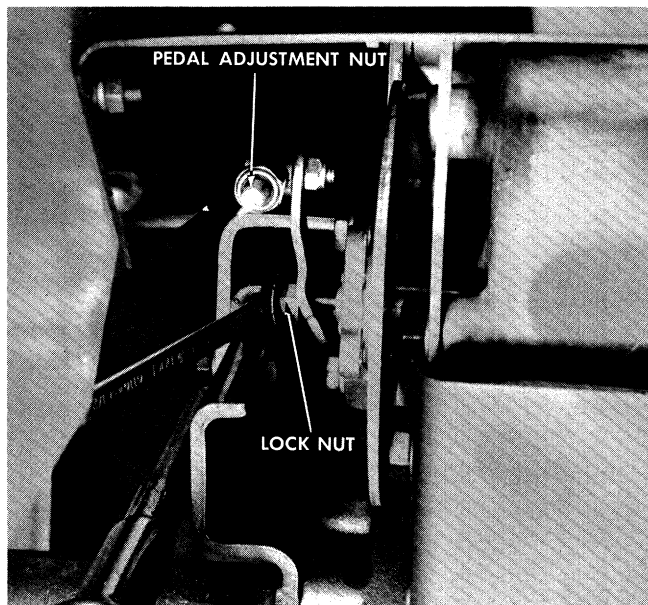

FIGURE 21. BRAKE ADJUSTMENT
7. Stop the engine. Position the axle range lever in neutral. Tighten the elastic stop nut on the brake until the brake holds and the rear wheels cannot be rotated. See pedal adjustment nut in Figure 21.
Step 2. Adjust the pedal adjustment nut in Figure 21, if necessary.